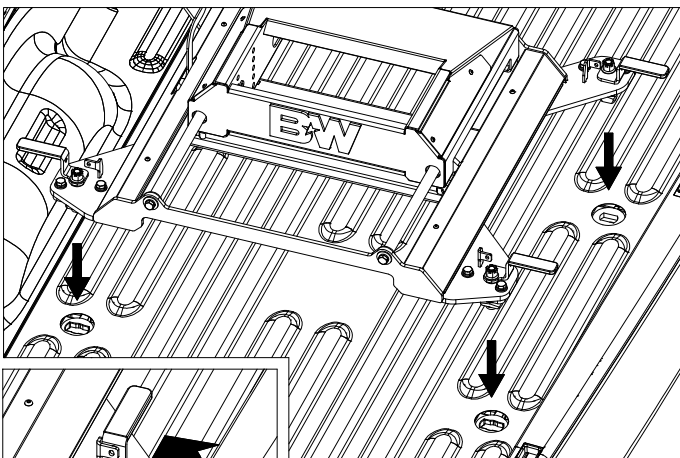

Figure B1:
1. **Place base.** The Companion base will mount to four attachment points in the truck bed. Remove the latch pins from each side of the base and rotate the handles out, see Figure B1. Position the base over the attachment points. Carefully lower it until the latch cams pass through the floor and the base rests flat against the top of the attachment points.